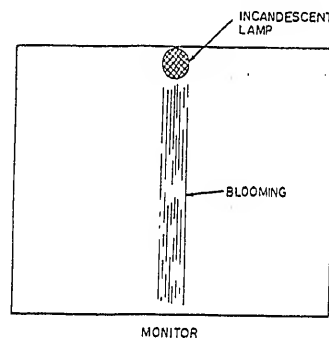

Fig. 4-5
4) Sensor Sub Voltage Adjustment (Figs. 4-5, 4-51)
1. Point the camera at a 40 W to 60 W incandescent lamp one (1) meter away. (See Fig. 4-5)